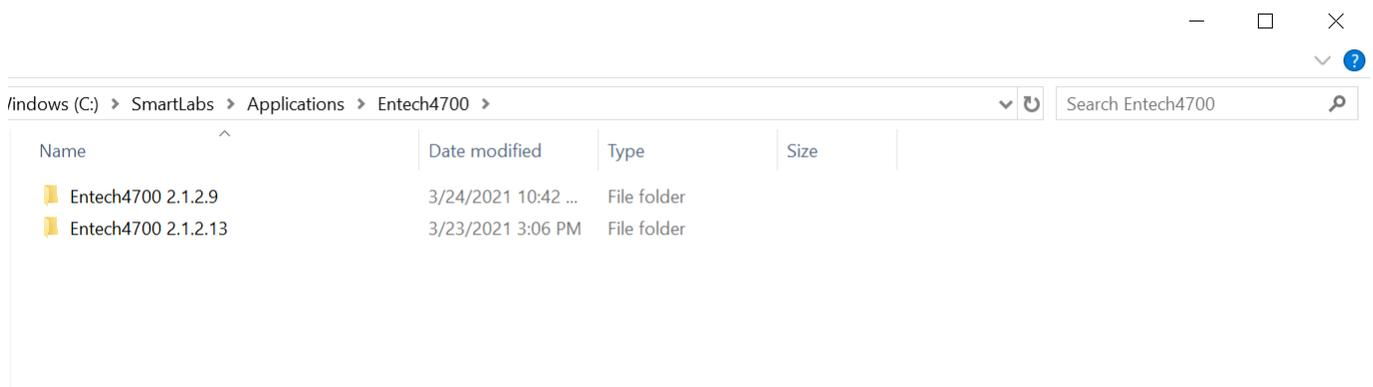

Figure 11: Entech 4700 Precision Diluter Software Directory
- 4 Open the newly installed revision folder and create a shortcut to the “Entech4700RF.exe” file on the desktop if one did not appear. Rename the shortcut to “Entech 4700 Version Number” (e.g. Entech 4700 2.1.2.13 for the version updated in Figure 11). Other users will have to make their own desktop shortcut and the ECB operator should work with LAB staff involved with Entech 4700 Precision Diluter operation to ensure the appropriate software revision is running on their individual user account.